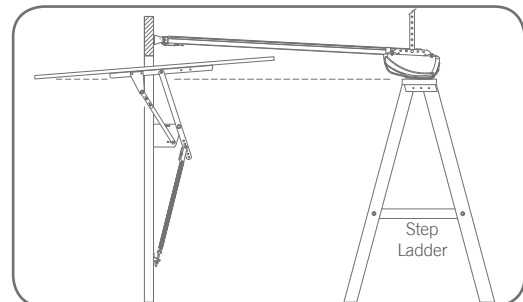

Fig. 15
- Rest the opener on the top edge of the door with end of the C-Rail against the wall (**Fig. 15**).
- Support the powerhead level with the lowest point of the open door (**Fig. 15**).